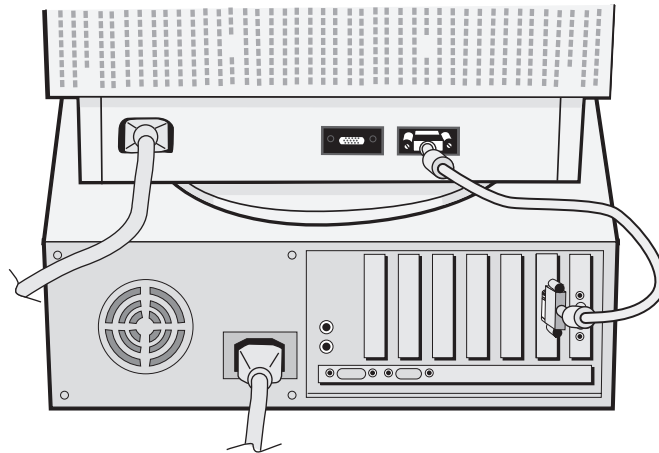

Figure A.1
3. For the PC: Connect the 15-pin mini D-SUB of the signal cable to the connector of the display card in your system (**Figure A.1**). Tighten all screws.